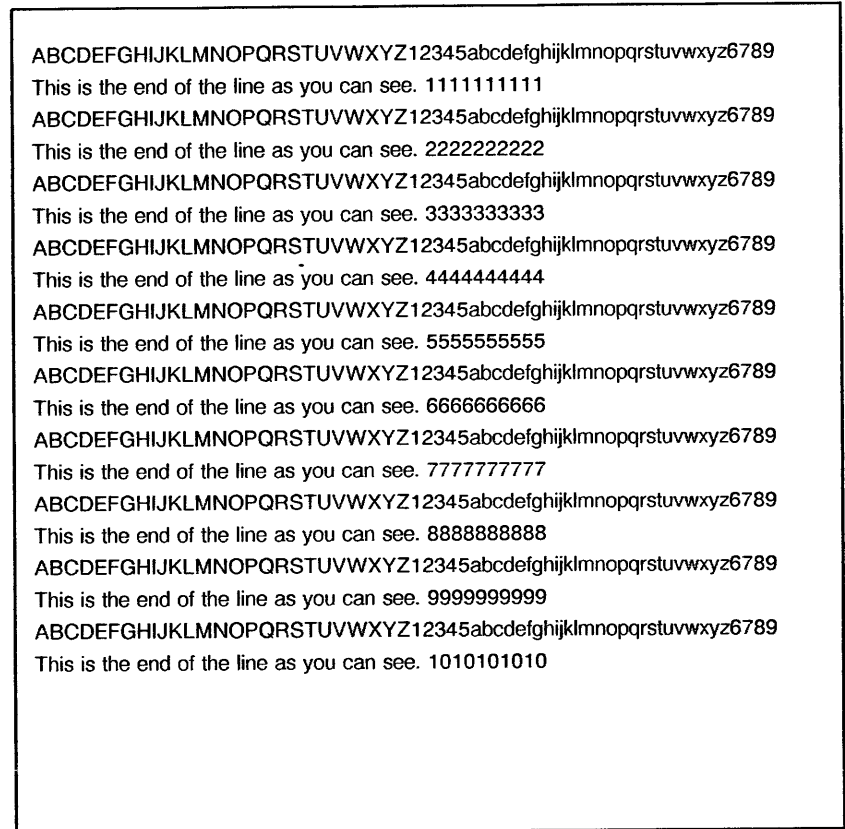

Figure 17. Print-Out on Printer Port Test
34. Run the Print-Out on Printer Port Test (Figure 17).